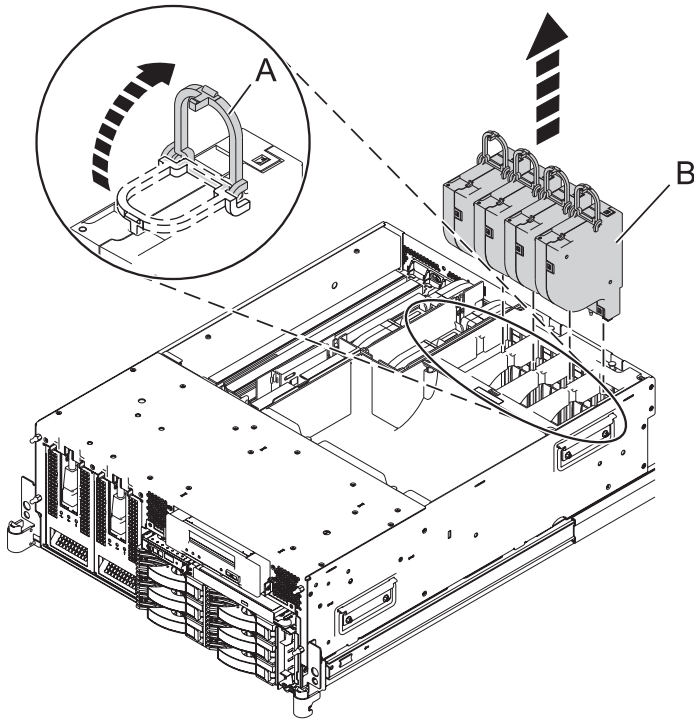

Figure 12. Removing the fans from the 8203-E4A, 8261-E4S, 9407-M15, or 9408-M25 airflow cover
- 1) To remove the fans, lift the latch (A) upward and pull each fan (B) out of the airflow cover as shown in Figure 12.